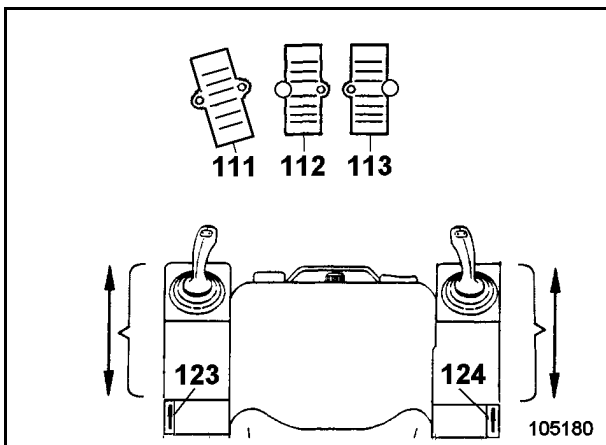

Fig. 2-25:
- stop the machine by releasing the travelling pedals (112 and 113, Fig. 2-25:); they will return to 0.